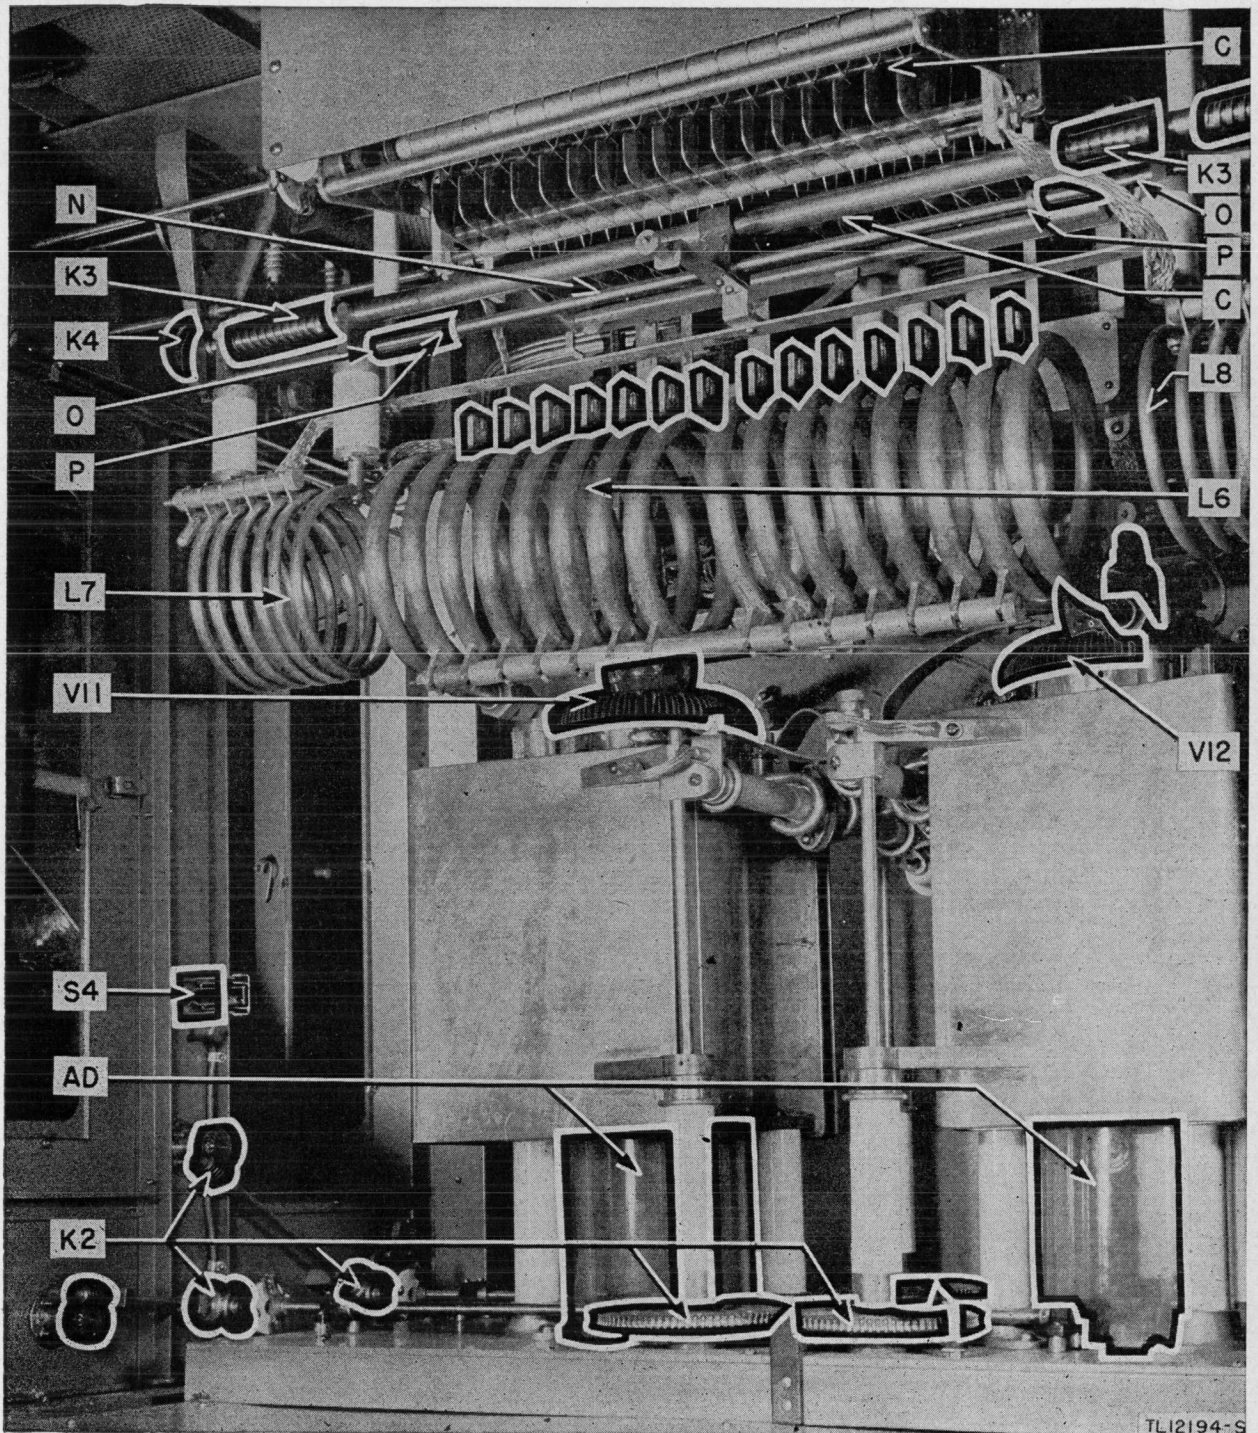

Figure 35. Power amplifier, side view.
- d. MASKING. (1) Mask all variable capacitor drive gears K2. (See fig. 35.)
- (2) Mask the two pyrex air ducts AD. (See fig. 35.)
- (3) Mask the threads of spiral worm shaft K3. (See fig. 35.)
- (4) Adjust coils L7 and L8 (fig. 35) to their maximum decoupled position and then mask the sleeve shaft N (fig. 35) from the end of the coil mounting sleeve O (fig. 35) to the sleeve stop collar P. (See fig. 35.)
- (5) Mask the coil drive gears K4. (See fig. 35.)
- (6) Mask all coil shorting bar terminals of L6, L7, and L8. (See fig. 35.)
- (7) Mask all ceramic insulators.
- (8) Mask the glass portion and cooling fins of the two type 889R tubes V11 and V12. (See fig. 35.)
- (9) Mask the wiper contacts and contact surfaces of capacitors C73 and C74, C. (See fig. 35.)
- (10) Mask the contacts and contact spring roller of KEY SWITCH S4. (See fig. 35.)